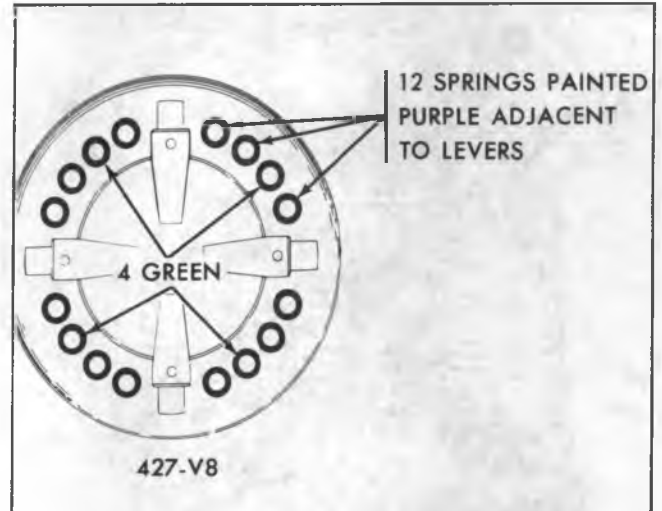

Fig. 8E--Spring Arrangement Diagram
6. Assemble the pressure springs, on the small bosses of the pressure plate in accordance with Figure 8E in order to retain original balance.
**NOTE:** If there are spaces for more springs than specified for the particular assembly, or if two different colors of springs are used, Figure 8E shows the proper sequence. It is very important that each group be arranged in like sequence.